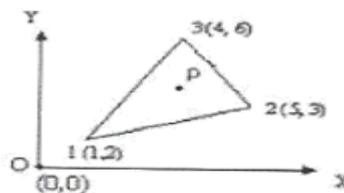

Figure.4
b. The nodal coordinates of the triangular element shown in figure 4 At the interior point P the x coordinate is 3.3 and the shape function at the node 1 is N_1 is 0.3 Determine the shape functions at nodes 2 and 3 and also y coordinate of point P
10. Determine all natural frequencies of the simply supported beam shown in Figure.4. Take $E=200\text{GPa}$ and density $=7840\text{kg/m}^3$.